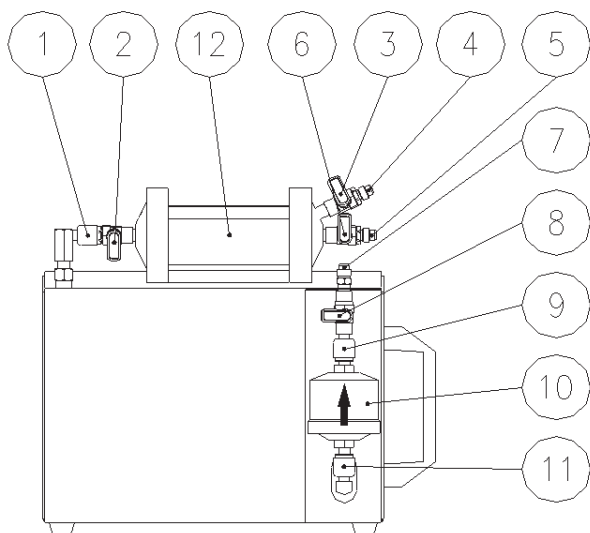

fig. 001
1. Close the valves ②, ③ and ⑥ and remove the inspector from the flushing kit.
2. Connect the red hose ⑰ from the scope of delivery *fig. 001* to the valve ②.
3. Connect the blue hose ⑰ from the scope of delivery *fig. 001* to the valve ⑤.
4. Connect the red high-pressure hose of the inspector to the **high-pressure service port** of the vehicle's A/C system (use the adapters 15-18 *fig. 001* for R134a systems).
5. Connect the blue high-pressure hose of the inspector to the **low-pressure service port** of the vehicle's A/C system (use the adapters 15-18 *fig. 001* for R134a systems).
8. Hold the sight glass (inspector) upright. Gradually open the inlet valve ② on the inspector. Then gradually open the valve on the pressure fitting ⑤ until the sight glass is $\frac{3}{4}$ filled with the refrigerant/oil mixture. Close the two valves again.